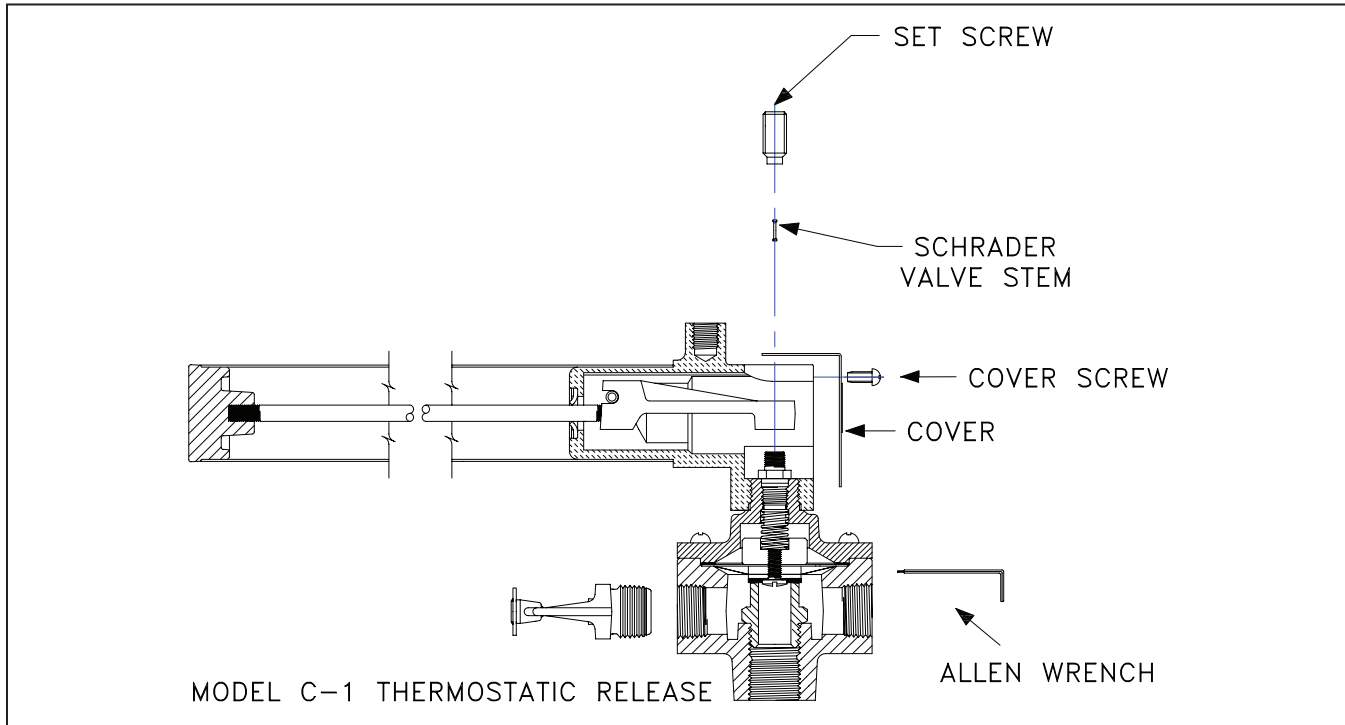

Figure 43
- i. Remove set screw (Figure 43).